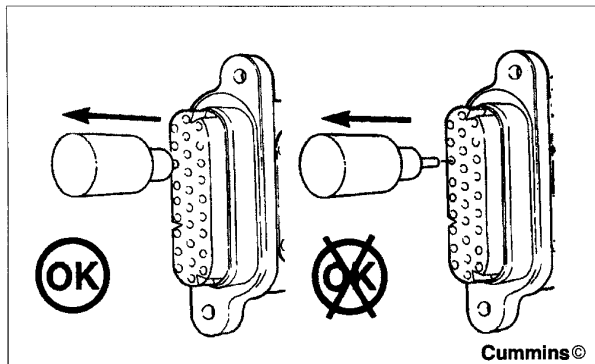

Figure 78 Slowly Remove Tool From Terminal
13. Make sure the female replacement terminal was not damaged during the installation process. Insert the Cummins terminal gauge, Part No. 3823383. Slowly remove the tool from the terminal. A small resistance (6 to 10 oz.) must be felt (Figure 78).